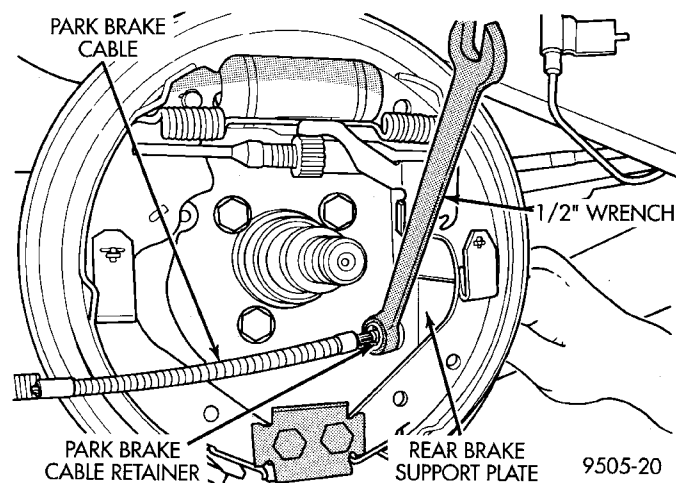

Fig. 150 Park Brake Cable Removal From Brake Support Plate
(20) On vehicles equipped with rear drum brakes, remove park brake cable (Fig. 150) from rear brake support plate. Park brake cable is removed from brake support plate using a 1/2 in. wrench as shown in (Fig. 150) to compress locking tabs on park brake cable retainer.